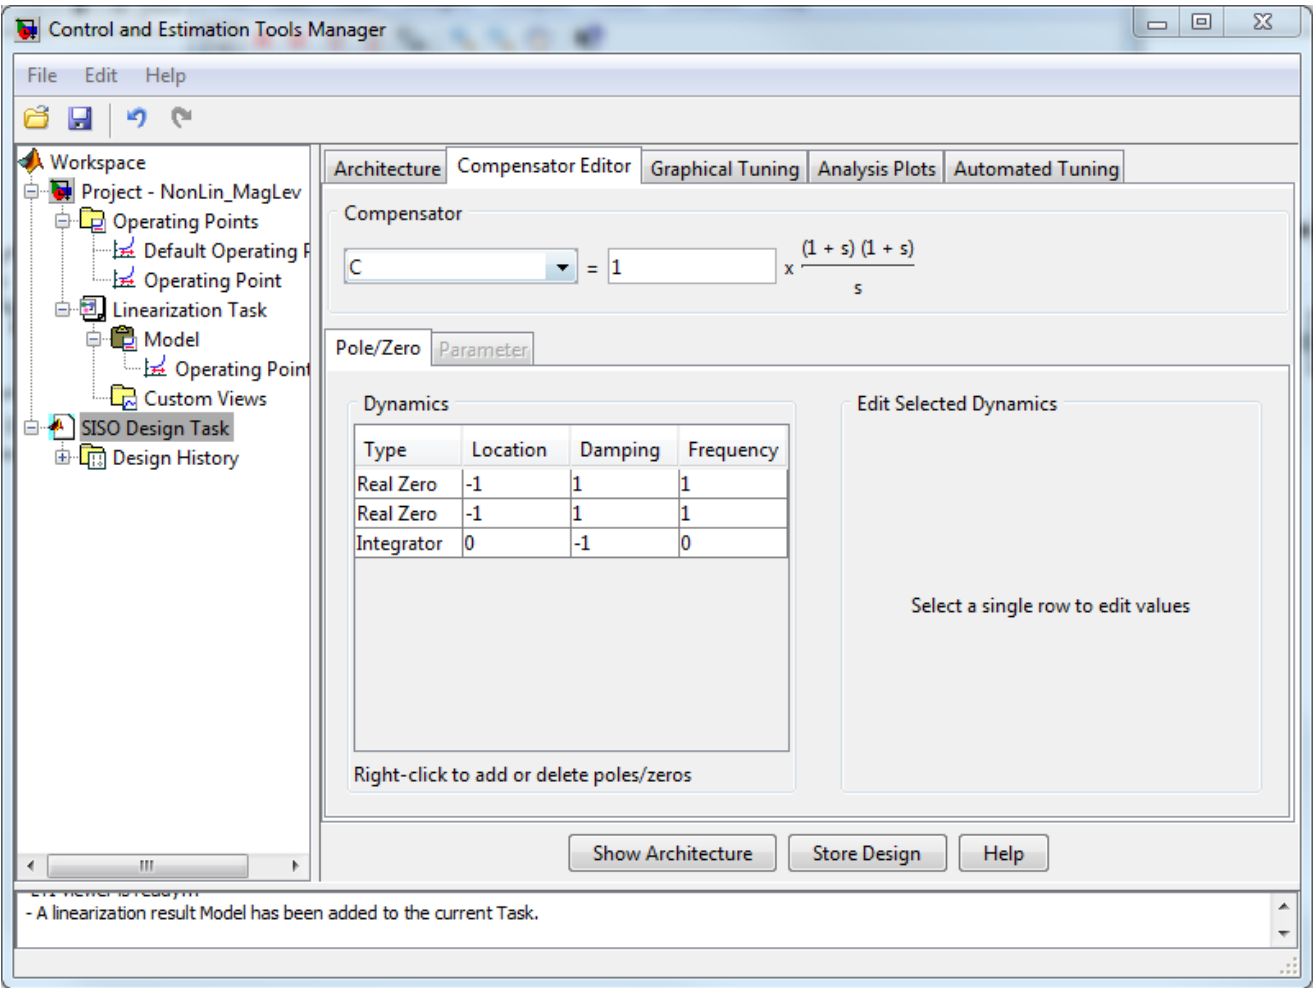

Figure 3 Controller Poles and Zeros
5. Define the PID controller poles and zeros at the Compensator Editor tab (Figure 3):